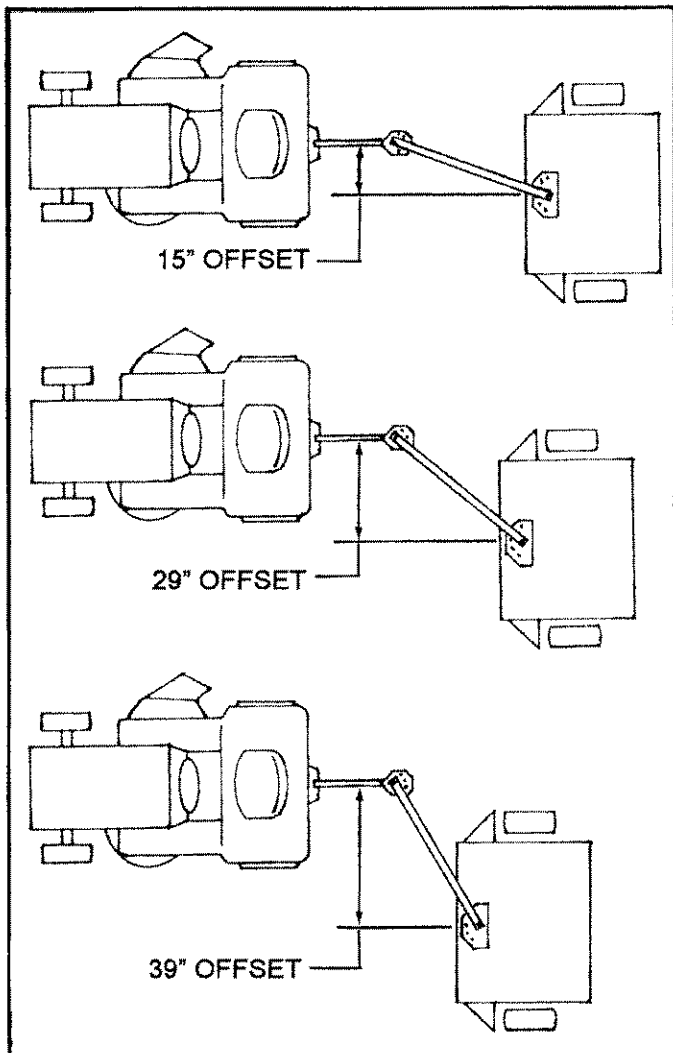

FIG. 5
- The adjustable tow hitch of this mower can be set in four positions, straight, Approximately 15° offset, 29° offset and 39° offset to either side. (See Fig. 5)